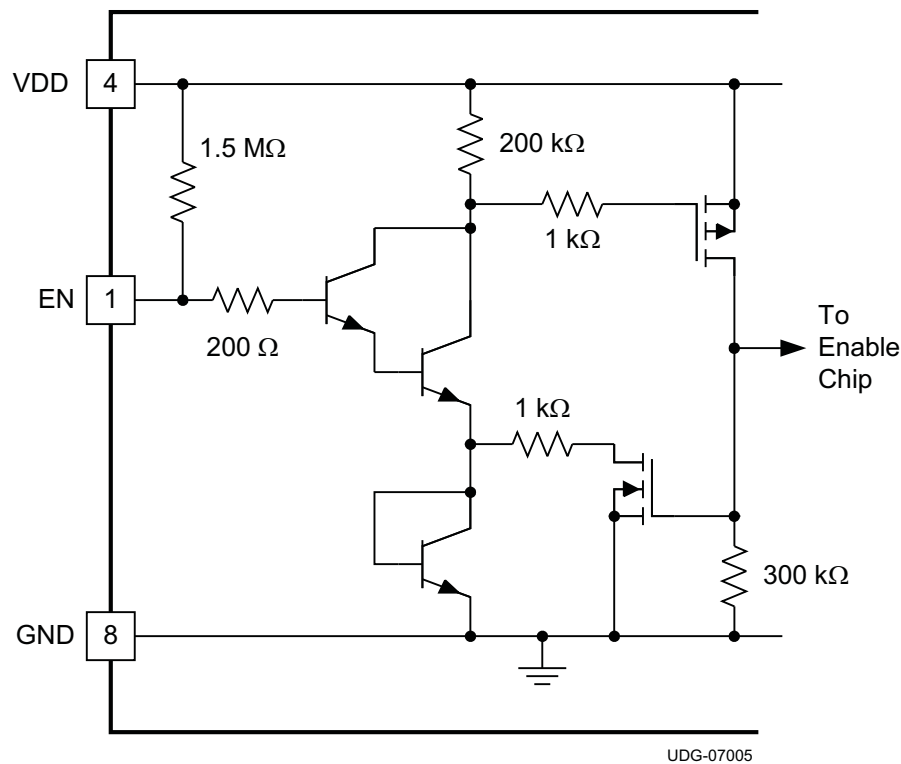

Figure 16. TPS40195 EN Pin Internal Circuitry
The TPS40195 has a dedicated device enable (EN) pin. This simplifies user level interface design since no multiplexed functions exist. Another benefit is a true low power shutdown mode of operation. When the EN pin is pulled to GND, all unnecessary functions inside the IC, including the BP regulator, are turned off and the TPS40195 consumes a typical 165-µA of current. A functionally equivalent circuit to the enable circuitry on the TPS40195 is shown in Figure 16.